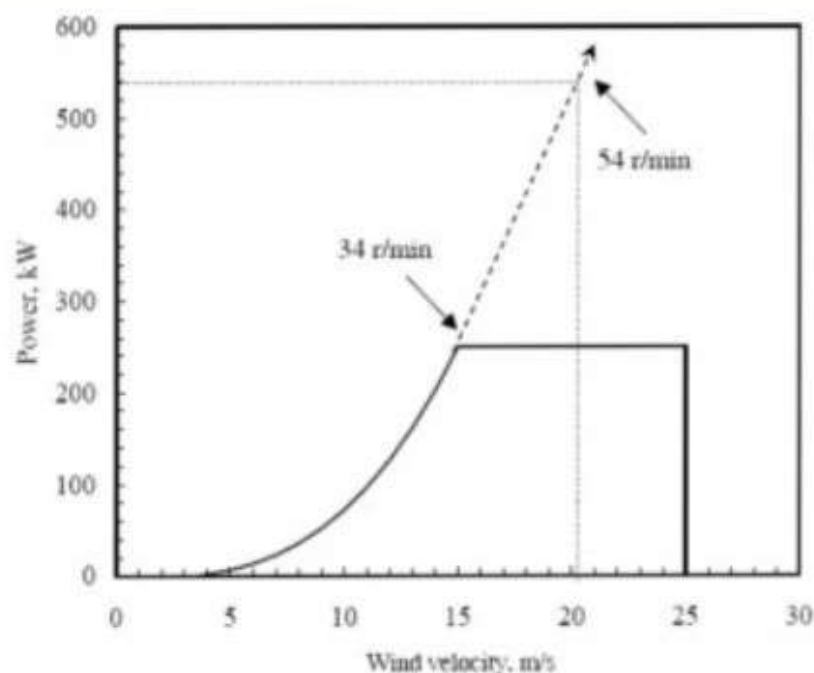

Fig. 4.9. Power curve of a typical wind turbine
- Power curve of a typical wind turbine is shown in Fig. 4.9. The turbine starts generating power as the wind speeds crosses its cut-in velocity of 3.5 m/s. The power increases with the wind speed upto the rated wind velocity of 15 m/s, at which it generates its rated power of 250 kW. Between the rated velocity and cut-out velocity (25 m/s), the system generates the same rated power of 250 kW, irrespective of the increase in wind velocity. At wind velocities higher than the cut-off limit, the turbine is not allowed to produce any power due to safety reasons.